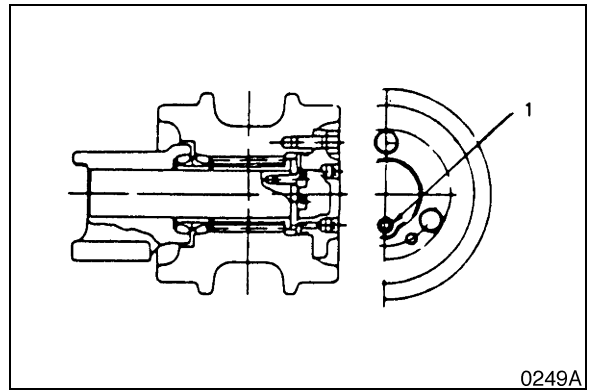

Figure 48
7. Tighten plug (1, Figure 48).